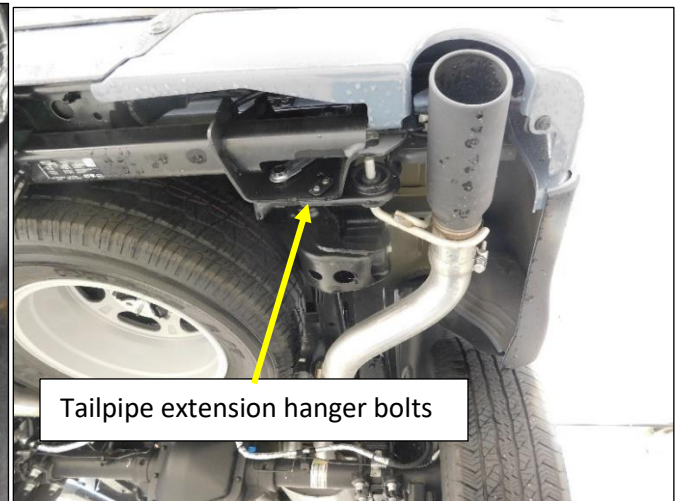

Figure 2
4. Remove the M10 nuts securing the tailpipe extension hanger to the rear frame structure (trailer hitch assembly). **Fig.2**